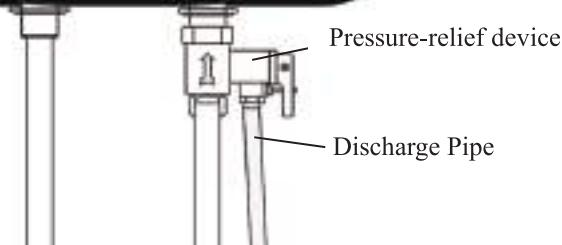

Fig.6
1. Pressure-relief device must be fitted during installation of the water heater. The Pressure-relief device must be attached with the machine and be installed at the cold water inlet, and the installation direction must be correct with the pressure release hole downward (see Fig. 6). Pls pay attention to keep the installed drainage flexible pipes of the pressure relief valve sloping downward in an environment above zero and connected with the atmosphere.